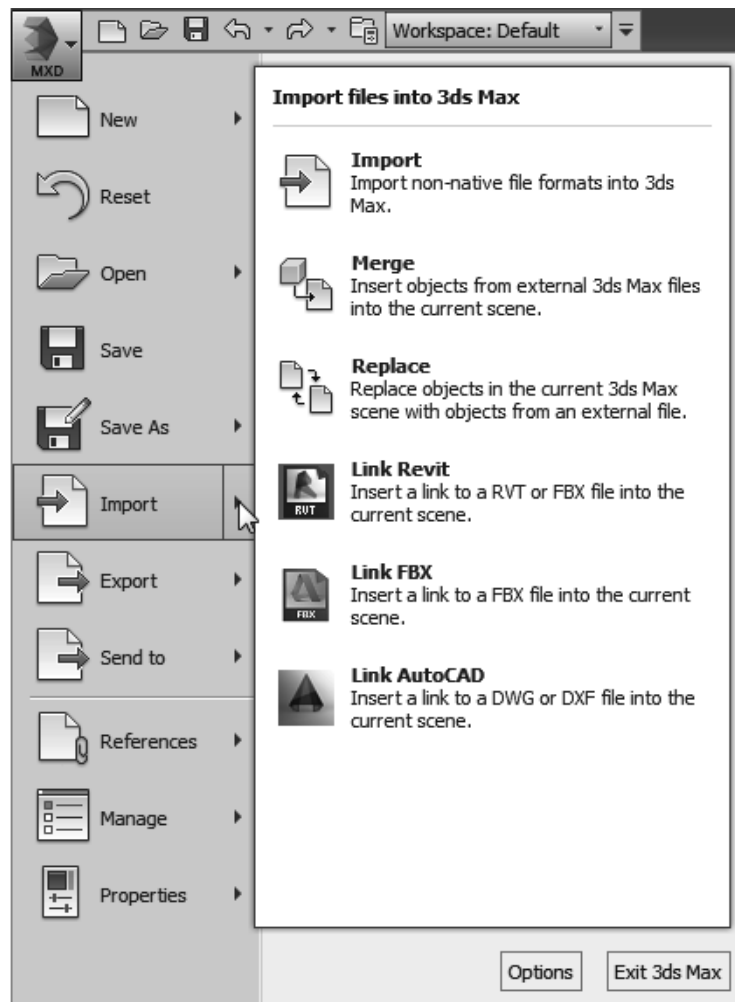

Figure 3–1
- File links and imports are launched by clicking (as shown in Figure 3–1): expand , expand Import, and select **Link Revit/Link FBX/Link AutoCAD** or expand , expand Import, and select **Import**.